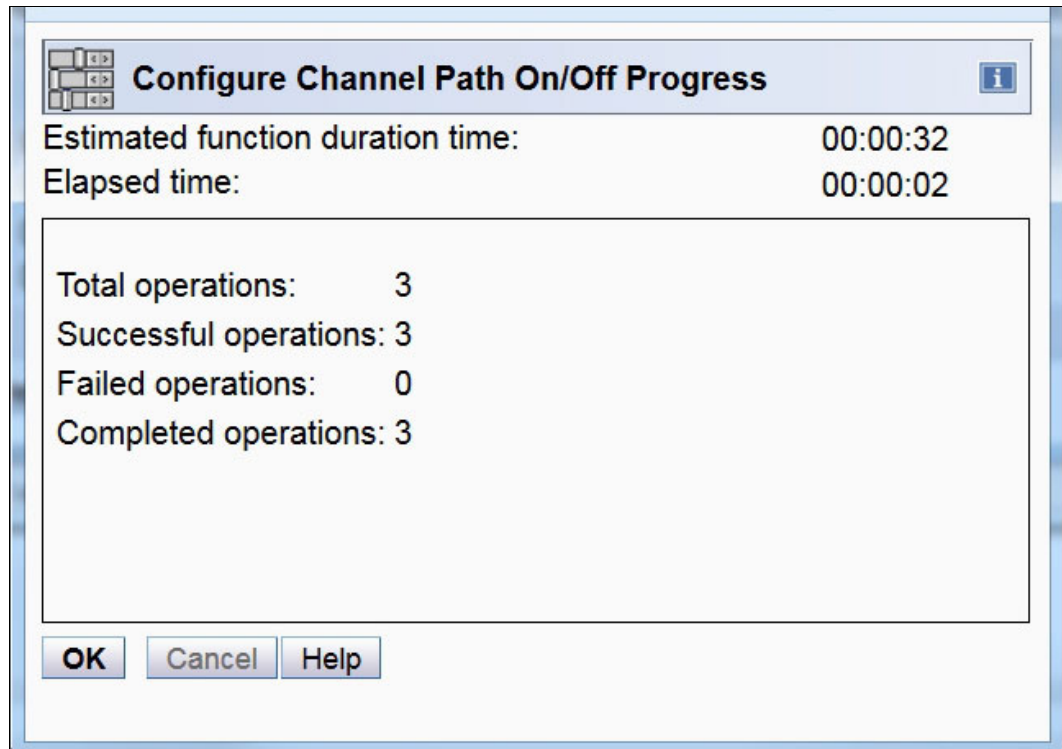

Figure 10-25 SE: Configure On/Off completed
- Confirm that your request is completed (Figure 10-25). Click **OK**.